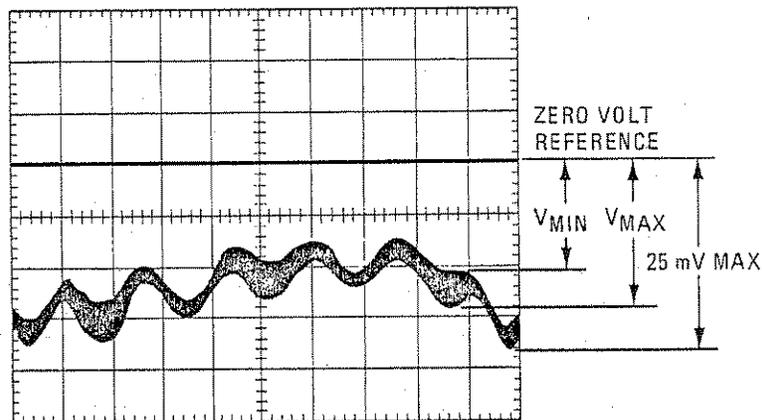

Figure 4--12. Typical Low Frequency Swept VSWR Measurement
1. Connect equipment as shown in Figure 4--10.
- Select several points on trace and calculate V_{MAX}/V_{MIN} (see Figure 4--12).
- Convert V_{MAX}/V_{MIN} ratio noted in step 5 into source match SWR, using Figure 4--13 and the cable loss calculated in step 5. The SWR should be less than 1.9.
- Connect equipment as shown in Figure 4--11.
- Convert greatest V_{MAX}/V_{MIN} ratio noted in step 10 into source match SWR using Figure 4--13 on the 0 dB loss line. The SWR should be less than 1.9.